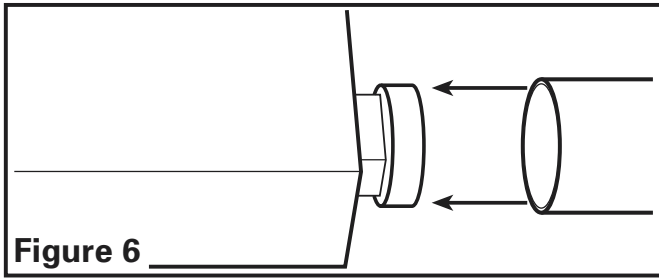

Figure 6
1. Remove any tape that might be holding the damper in place. Connect the ducting to the fan's duct collar **(Figure 6)** and secure in place using tape or screw clamp. Always duct the fan to the outside through a wall or roof cap.